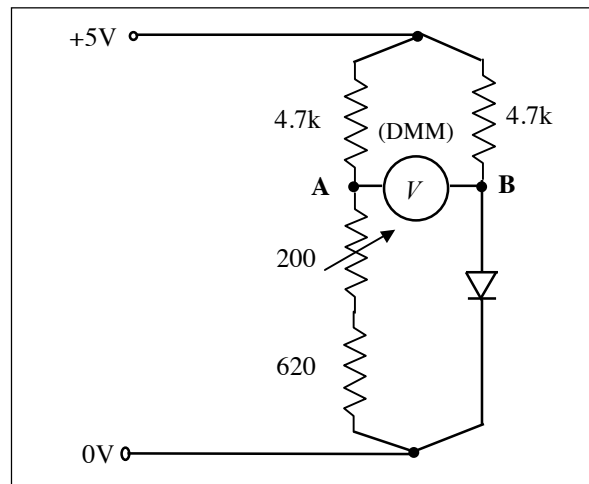

Figure 3 Wheatstone bridge circuit
- Construct the bridge circuit of figure 3. First check that the 5V supply is stable using the DMM. The balance point of the Wheatstone Bridge will be affected if the power supply drifts. The leads on the small blue multi-turn variable resistor (helipot) are easily broken — do not stretch them!